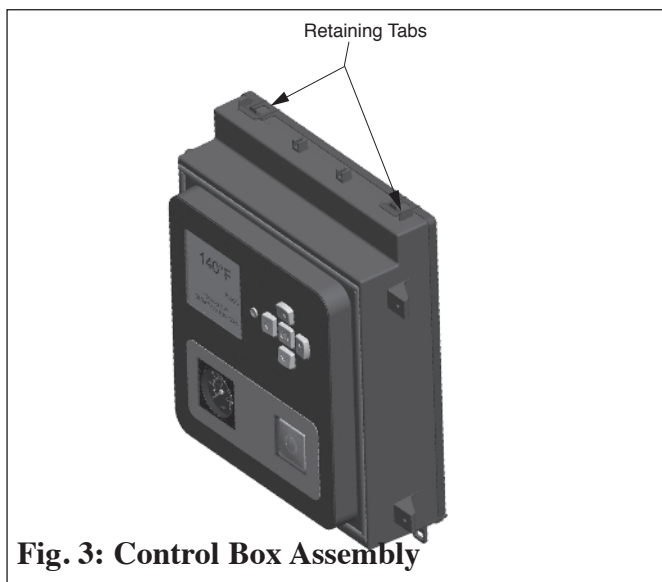

Fig. 3: Control Box Assembly
5. Pull the retaining tabs on top of the rear cover to remove the rear control box cover. See Fig. 3.